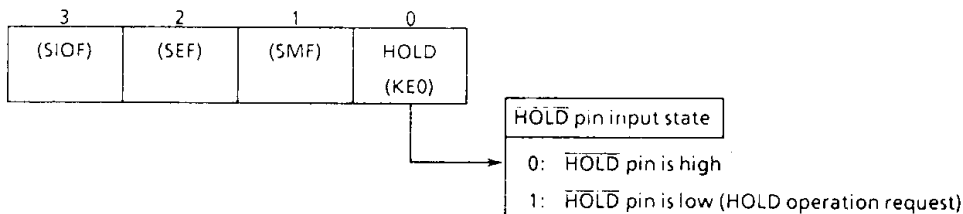

Figure 5-1. HOLD Operating Mode Command Register/Status Register
- ① The oscillator starts.
- ② Warm-up is performed to acquire the time for stabilizing oscillation. During the warm-up, the internal operations are all stopped. One of three warm-up times can be selected by program depending on the characteristics of the oscillator used.
- ③ When the warm-up time has passed, an ordinary operation restarts from the instruction next to instruction which starts the HOLD operation. At this time, the interval timer starts from the reset state "0".
*Note.* The warm-up time is obtained by dividing the basic clock by the interval timer, so that, if the frequency at clearing the HOLD operation is unstable, the warm-up time shown in Figure 5-1 includes an error. Therefore, the warm-up time must be handled as an approximate value.